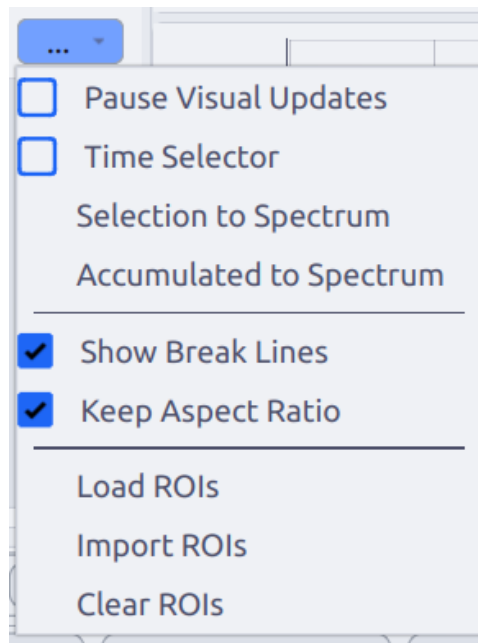

Figure 2.5: Dropdown options menu in spectrogram pane, see Table 2.2.
6. Options menu, see Figure 2.5